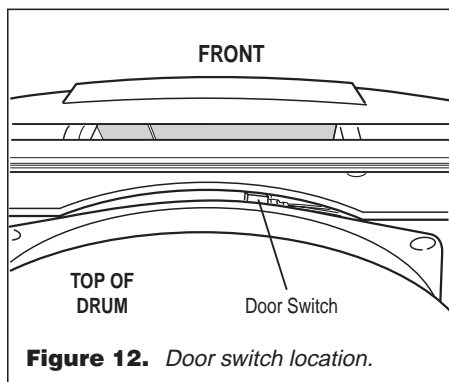

Figure 12. Door switch location.
- ➔ If any of the above conditions are not met, or if one of the dryer model codes listed above is displayed when the door is **closed**, check that the wires between the door switch and machine control electronics are connected. See figure 12 below for switch location, and see Accessing the Machine Control Electronics, page 10.